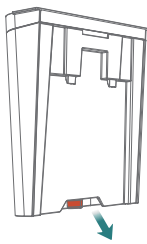

Fig 1
2. Remove the Rubber Plug from the bottom of the water tank. (See Fig 1)